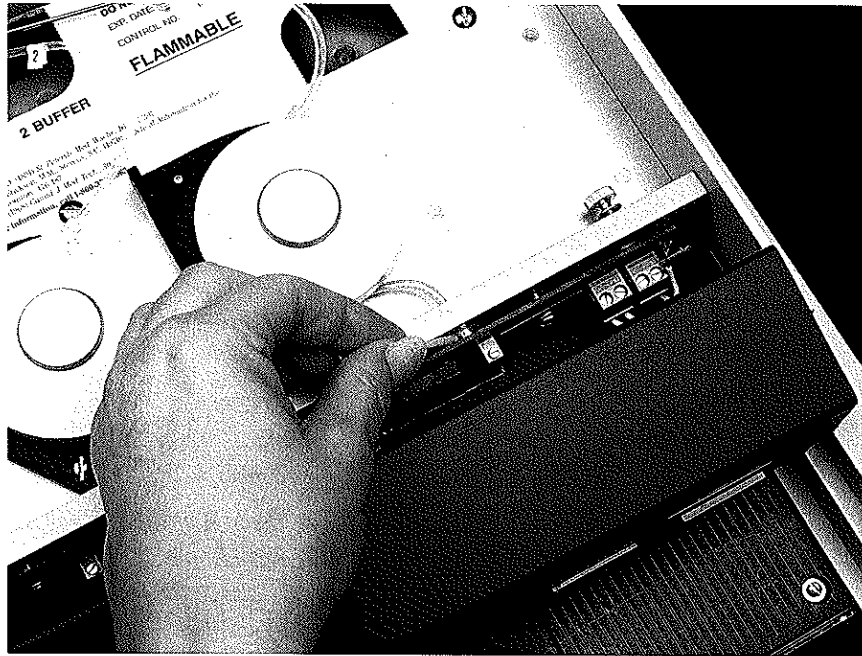

Figure 8-9
6. Disconnect the stain tubing from the nipple that is located behind the circuit board (Figure 8-9).